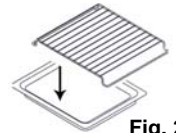

Fig. 2
- Place the wire rack on the broil pan. (Fig. 2)
- When broiling time is complete, the oven will turn “Off” and the unit will beep five (5) times.